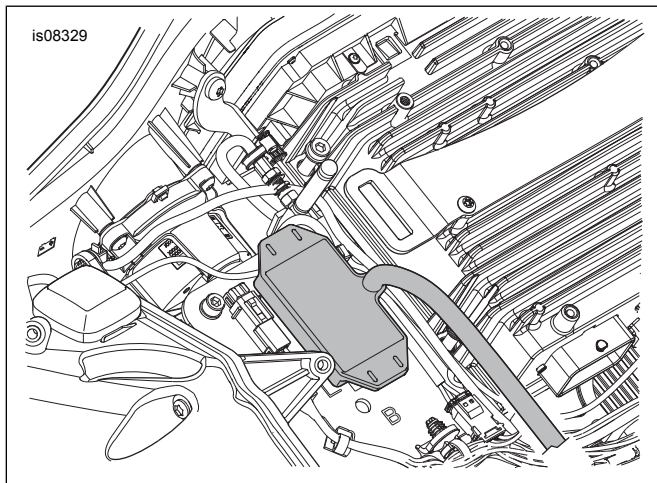

Figure 16. Transmitter Mounting (2017-Later FLTR Touring Models)
2. Figure 16. Remove the protective tape from the adhesive backing of the foam pad on the transmitter.